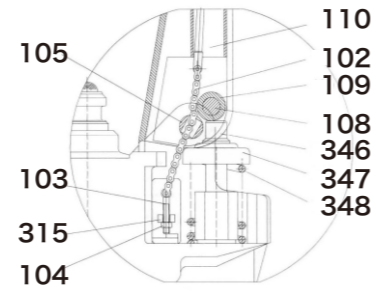

Fig. 3
- 3.2 Adjust the control handle(117) to the 'LOWER' position, then pass the adjusting nut(104), adjusting bolt(103) and chain(102) through the hole of axle(105) with your hand (See fig. 3).